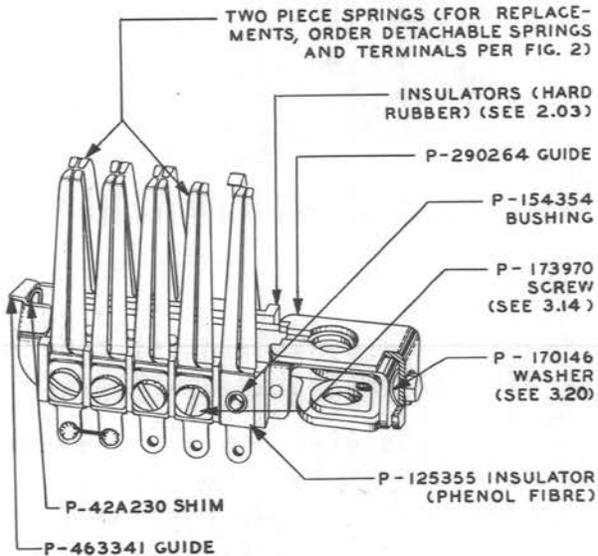

Fig. 3 - Auxiliary Commutator Brush Guides for 10- and 14-Type Brushes and Parts Associated With 2-Piece Springs
3.21 Where Wiper Holder Is Not Furnished: To install an auxiliary brush guide, mount the 613A clamp as covered in 3.04. Loosen the brush clamping screw, turning it out two or three turns with the 555A wrench. Then place the auxiliary guide over the top of the brush rod and slide it down on top of the brush frame into the position shown in Fig. 3. On brush rods where the commutator brush wiring comes out of the top of the rod, it will be necessary to raise the ferrule, if provided, and work the wires into the guide. On 300-point line finder frames, remove the compensator tape clamp from the brush rod as covered in 3.15. Hold the guide firmly against the brush frame and securely tighten the brush clamping screw. Remount the compensator tape clamp if removed. If interference occurs between the guide and commutator, place a P-170146 washer (shown in Fig. 3) on the brush clamping screw between the brush
Mount the 613A clamp as covered in 3.04. Loosen the brush clamping screw, turning it out two or three turns with the 555A wrench. Remove the wiper holder P-485638 clamping bracket. Then place the auxiliary guide over the top of the wiper holder feet. On brush rods where the commutator brush wiring comes out of the top of the rod, it will be necessary to raise the ferrule if provided and work the wires into the guide. Move the legs of the wiper holder away from the brush rod to take up any play in the mounting holes. Hold the guide firmly against the brush frame and wiper feet and securely tighten the brush clamping screw. If interference occurs between the guide and commutator, place a P-170146 washer (shown in Fig. 3) on the brush clamping screw between the brush frame and guide. To do this, it will be necessary to remove the clamping screw from the brush frame and place the washer in position. Then insert and securely tighten the screw. Remove the 613A clamp. Check the requirements applying to the position of the commutator brush springs and the pressure of the wiper pad against the commutator as covered in Section 026-120-701.